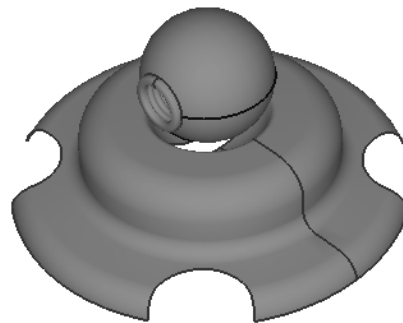

Figure 7-72 Model after turning the display of isoparametric curves
3. Select entire model and clear the **Isoparm U** and **V** check boxes in the **Display** area of the **Control Panel**; the display of isoparametric curves is turned off, as shown in Figure 7-72.